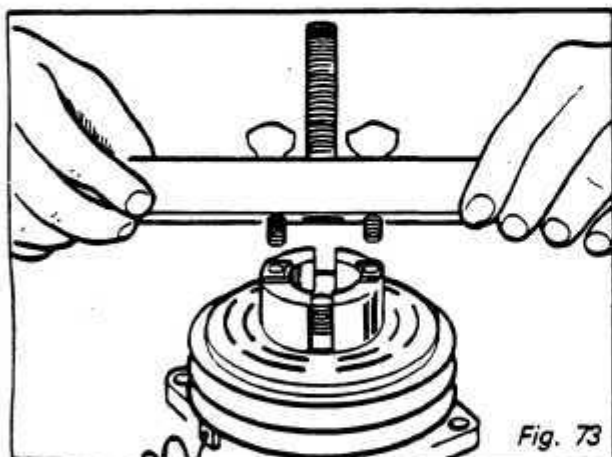

Fig. 73
- Align thumb head bolts to pulley jaws and finger-tighten. *Fig. 73*